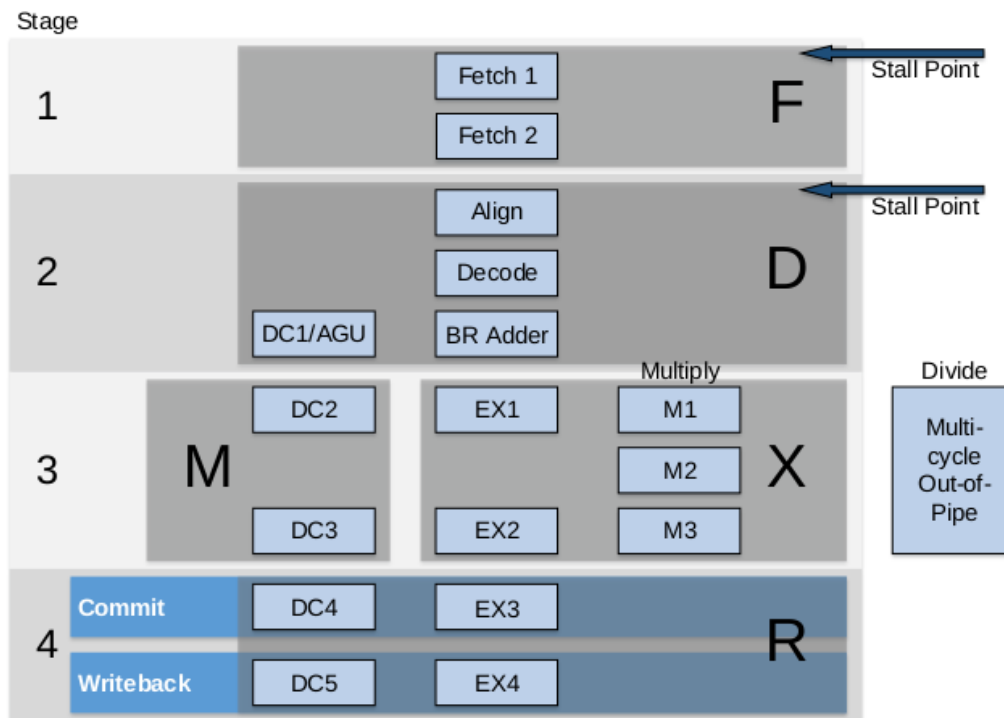

Figure 1. VeeR EL2 core microarchitecture
As explained in the RVfpgaEL2 Getting Started Guide (GSG), VeeR EL2 (see Figure 1) is a scalar 4-stage core with one execution pipeline, one load/store pipeline, one multiplier pipeline, and one out-of-pipeline divider. Two stall points can occur in the pipeline: ‘Fetch’ and ‘Decode’. The figure also shows how VeeR EL2’s logic stages have been shifted up with respect to VeeR EH1 and merged into 4 stages named Fetch (F), Decode (D), Execute/Memory (X/M), and Retire (R). Also shown is additional logic such as a new branch adder in the D stage, not included in VeeR EH1. The branch mispredict penalty is either 1 or 2 cycles in VeeR EL2. The merged F stage performs the program counter calculation and the I-cache/ICCM memory access in parallel. The load pipeline has been moved up so that the DC1 memory address generation (AGU) logic is now combined with align and decode logic to enable a DCCM memory access to start at the beginning of the M stage. The design supports a load-to-use of 1 cycle for smaller memories and a load-to-use of 2 cycles for larger memories. For 1-cycle load-to-use, the memory is accessed and the load data aligned and formatted for the register file and forwarding paths, all in the single-cycle M stage. For 2-cycle load-to-use, almost the entire M stage is allocated to the memory access, and the DC3/DC4 logic combined into the R stage is used to perform the load align and formatting for the register file and forwarding paths. EX3 and EX4/WB are combined into the R stage and primarily used for commit and writeback to update the architectural registers.